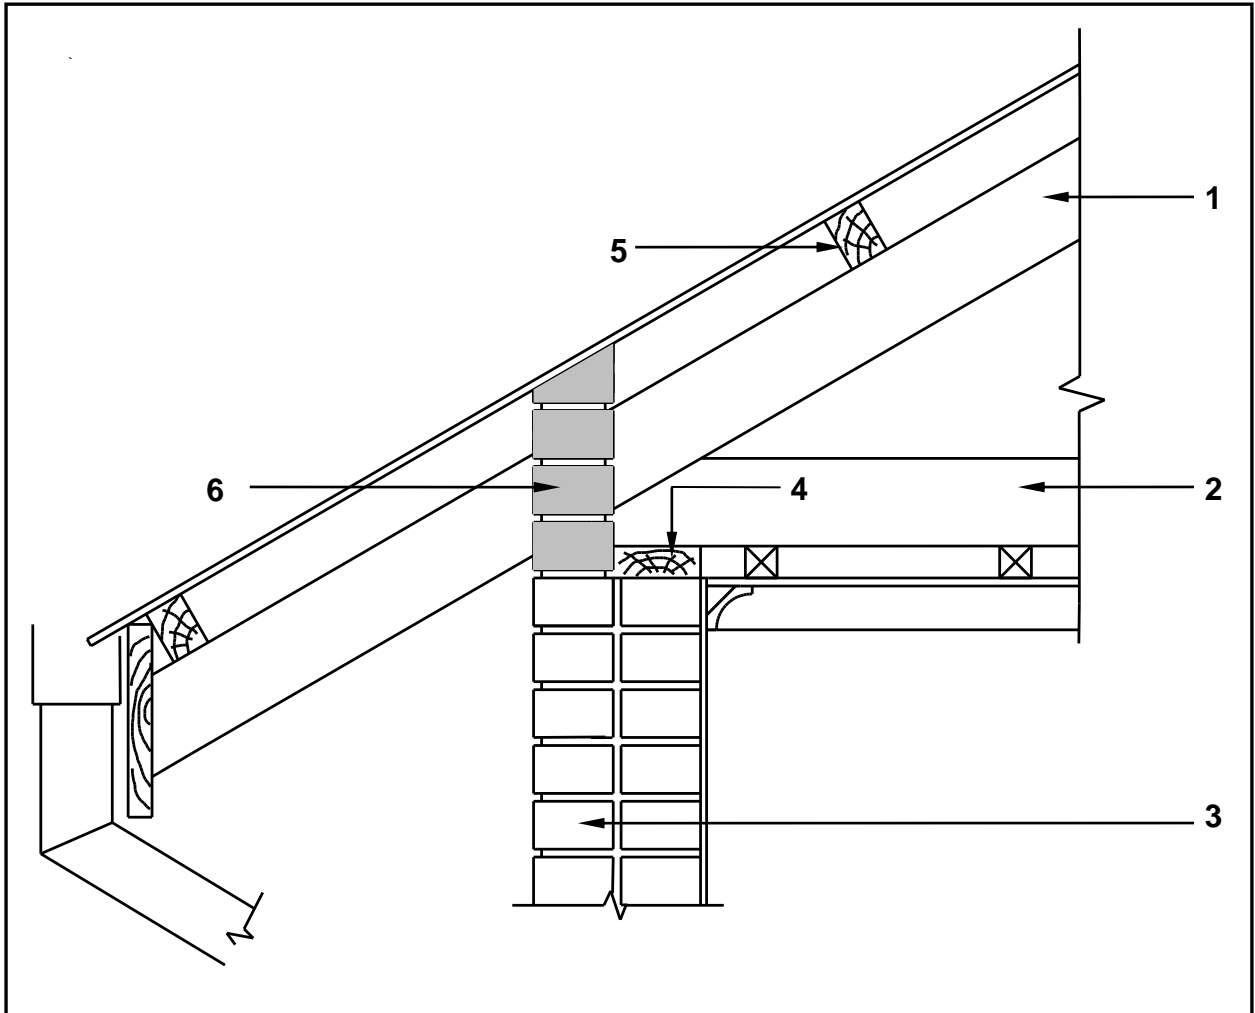

FIGURE 6.1
6.1 FIGURE 6.1 below shows a sectional view of the eave of a roof. Study the drawing and complete the table on ANSWER SHEET 6.1.